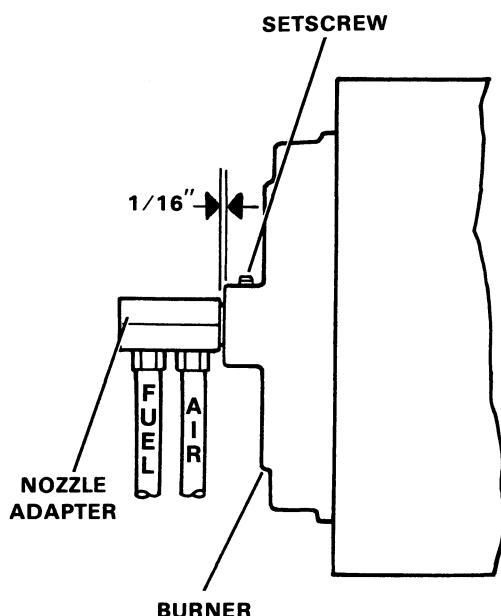

FIG. 11
2. Loosen the setscrew in the burner casting which holds the nozzle adapter in place. (Fig. 11)
3. Pull the nozzle back one notch (about $1/16''$). See (Fig. 11)